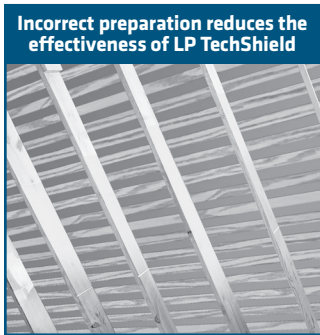

Figure 1
2. If the rafters are uniformly spaced, remove every 1x4-in. plank. (see Figures 1 & 2)